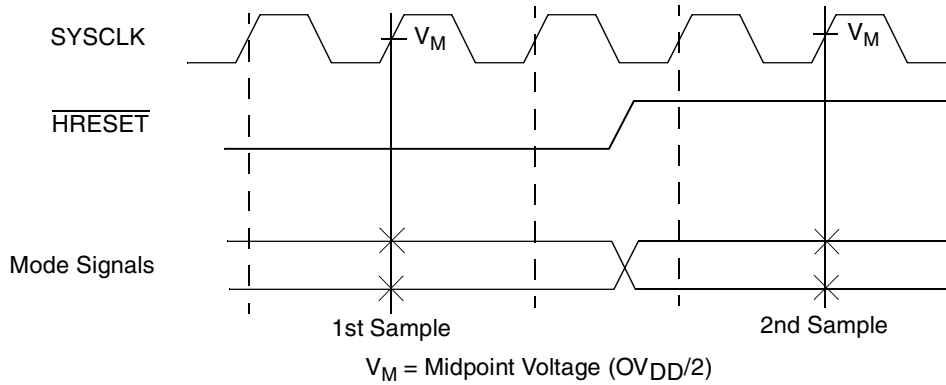

Figure 5. Mode Input Sample Timing Diagram
Table 9 provides the processor bus AC timing specifications for the MPC7447A as defined in Figure 4 and Figure 5.
- $\overline{\text{BMODE}}[0:1]$  and  $\overline{\text{BVSEL}}$  are mode select inputs and are sampled before and after  $\overline{\text{HRESET}}$  negation. These parameters represent the input setup and hold times for each sample. These values are guaranteed by design and not tested. These inputs must remain stable after the second sample. See Figure 5 for sample timing.
Figure 5 provides the mode select input timing diagram for the MPC7447A. The mode select inputs are sampled twice, once before and once after  $\overline{\text{HRESET}}$  negation.